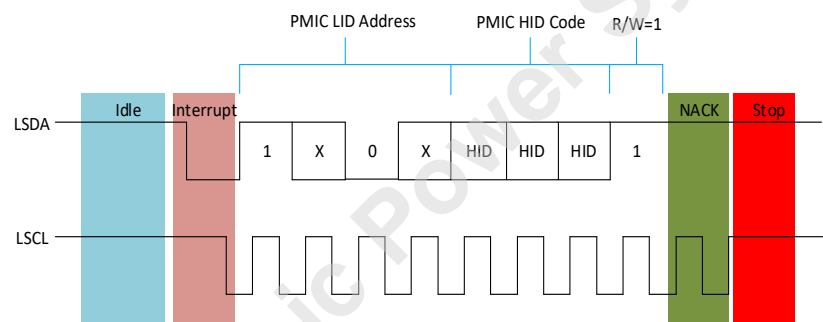

Figure 28 — PMIC Requests Interrupt; Host NACK followed by STOP
- The Host sends NACK on the 9th bit as shown in Figure 28 followed by a STOP command. In this case, the PMIC device does not transmit the IBI payload and waits for the next opportunity to request an interrupt. At this point, though Host sent an NACK, it does have a knowledge of which PMIC device sent the IBI request. The PMIC device retains the IBI status flag ([Table 115, Register 0x0A \[1\] = '1'](#)) and Pending Interrupt Bits [3:0] = '0001'.